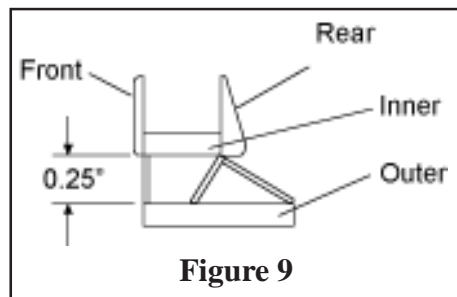

Figure 9
53. Glue the left forward (part 49) and left rear (part 51) pylon struts to the dual station pylon (the one WITHOUT the little projections at the ends; part 54) with pylon detail facing out. Repeat for the right side. Now the tricky part. The outer pylon (part 55) is mounted 0.25" (6.3mm) outboard of the inner and about 0.030" (0.75mm) higher. They are aligned at the front. I recommend making a small jig to hold things in position while the struts between the two are installed. Use lengths of 0.030" x 1/8" strip and install according to Figure 9.